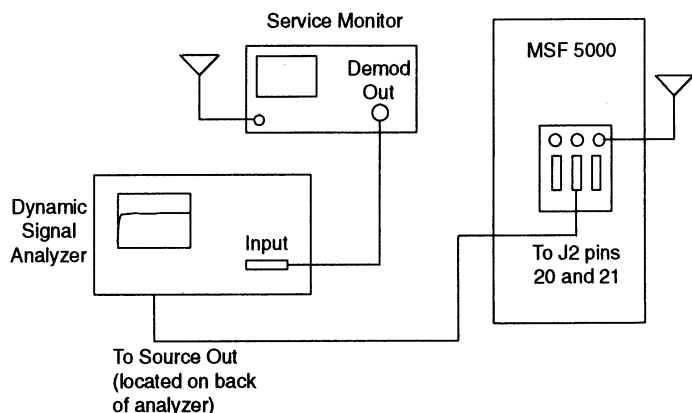

Figure 5. Mod Comp Equipment Setup for Systems Without a Functional Audio Distribution Network
Step 1. Inject the output of a DSA directly in the MSF 5000 system connector J2 (pins 20 and 21). This requires the MSF 5000, the DSA and the optimization consolette or service monitor to be in the same location. Figure 5 shows this configuration using a service monitor.